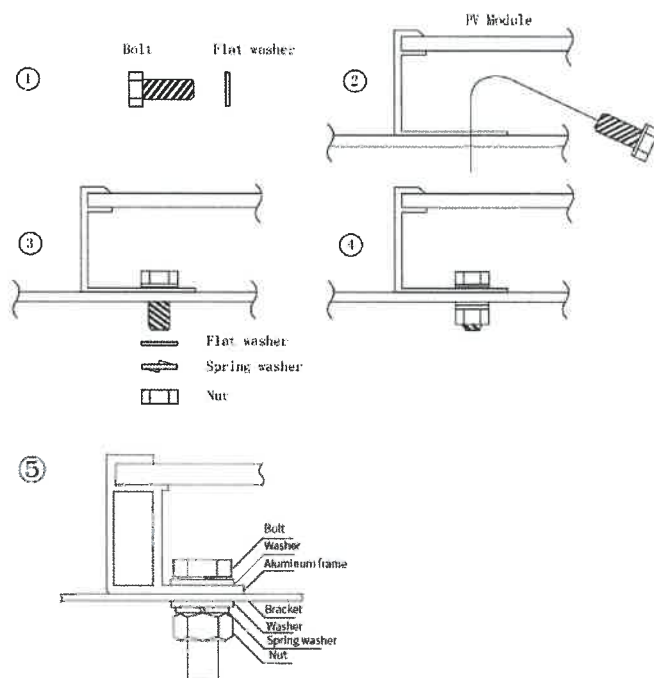

figure 3
- The method and the specifications of the fixing parts are shown in the *figure 3* below: